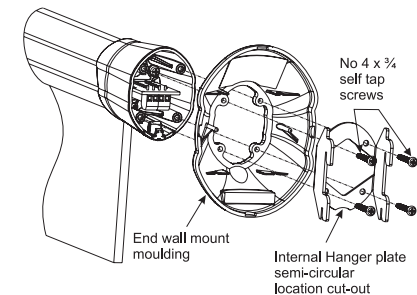

Fig 1-7: Right Hand Conversion Re-Assembly
- 7) This combination is then fixed to the right hand flush mount assembly end moulding with the 4 supplied No.4 x 3/4 self tap screws. See Fig 1-7. Do not substitute any other screws in these positions and do not reuse the screws removed from these positions, because they will not support the sign correctly.